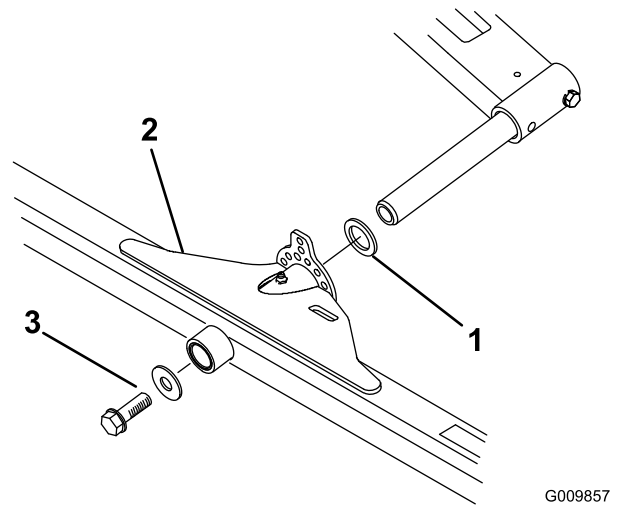

Figure 9
1. Slide a thrust washer onto the lift arm pivot rod (Figure 9).
2. Slide the cutting unit carrier frame onto the pivot rod and secure it with a flat washer and flange-head bolt (Figure 9).